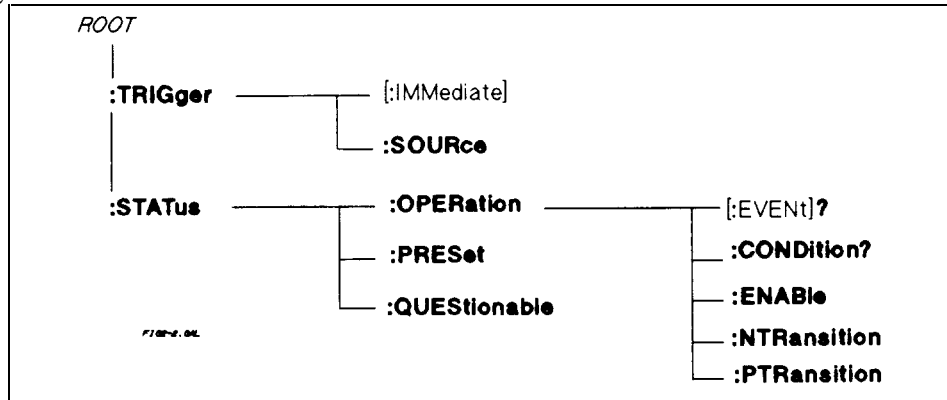

Figure 6-1. Partial Command Tree
**Subsystem Commands.** Subsystem commands (see Figure 6-1) perform specific power supply functions. They are organized into an inverted tree structure with the "root" at the top. Some are single commands while others are grouped under other subsystems.
Figure 6-1 shows a portion of the subsystem command tree (you can see the complete tree in Figure 7-2). Note the location of the ROOT node at the top of the tree. The SCPI interface is at this location when:
In order to properly traverse the command tree, you must understand the concept of the active header path. When the power supply is turned on (or under any of the other conditions listed above), the active path is at the root. That means the interface is ready to accept any command at the root level, such as **TRIGger** or **STATus** in Figure 6-1. Note that you do not have to precede either command with a colon; there is an implied colon in front of every root-level command.
The basic parts of the message in Figure 6-1 are: